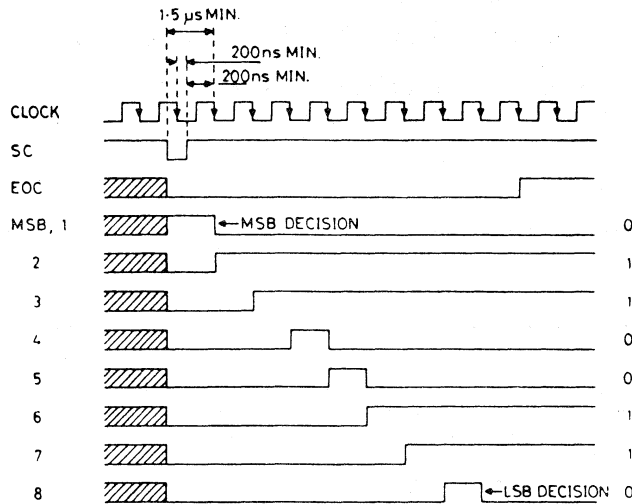

Fig. 2 ZN427 timing diagram
The conversion cycle is initiated by a negative going pulse applied to the START CONVERSION (SC) input, this sets the END OF CONVERSION (EOC) output to a logic '0' indicating that the converter is busy, see Fig. 2. On the ninth negative going clock edge after the start pulse the EOC output goes back to logic '1' signalling